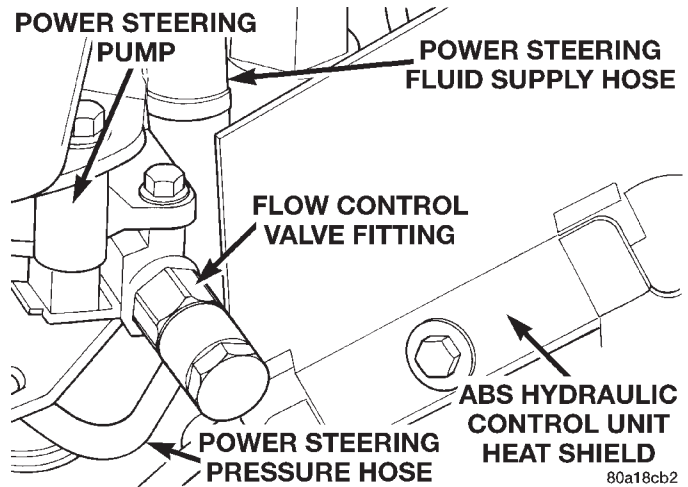

Fig. 37 Hydraulic Control Unit Heat Shield
(8) Remove the antilock brakes hydraulic control unit heat shield (Fig. 37) from the hydraulic control unit mounting bracket.
- (12) Install heat shield on hydraulic control unit for the antilock brake system (Fig. 37).